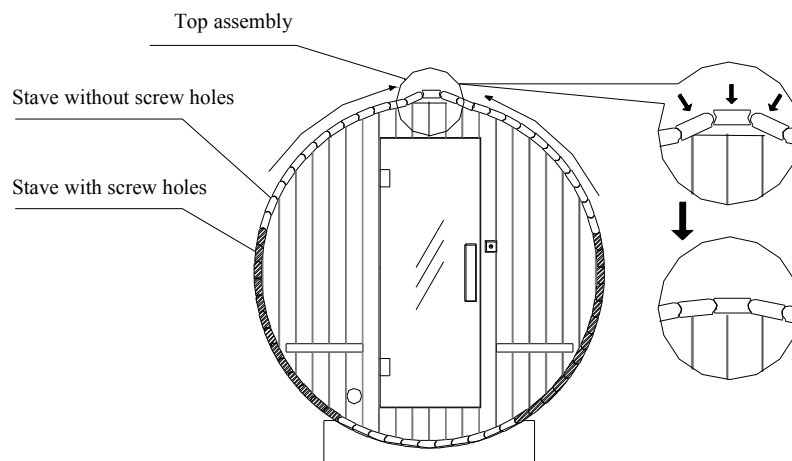

Figure7
- (1) Go on assembling staves without screw holes up to the top of sauna. To assemble the final stave on the top, please see (shown in Figure 7)